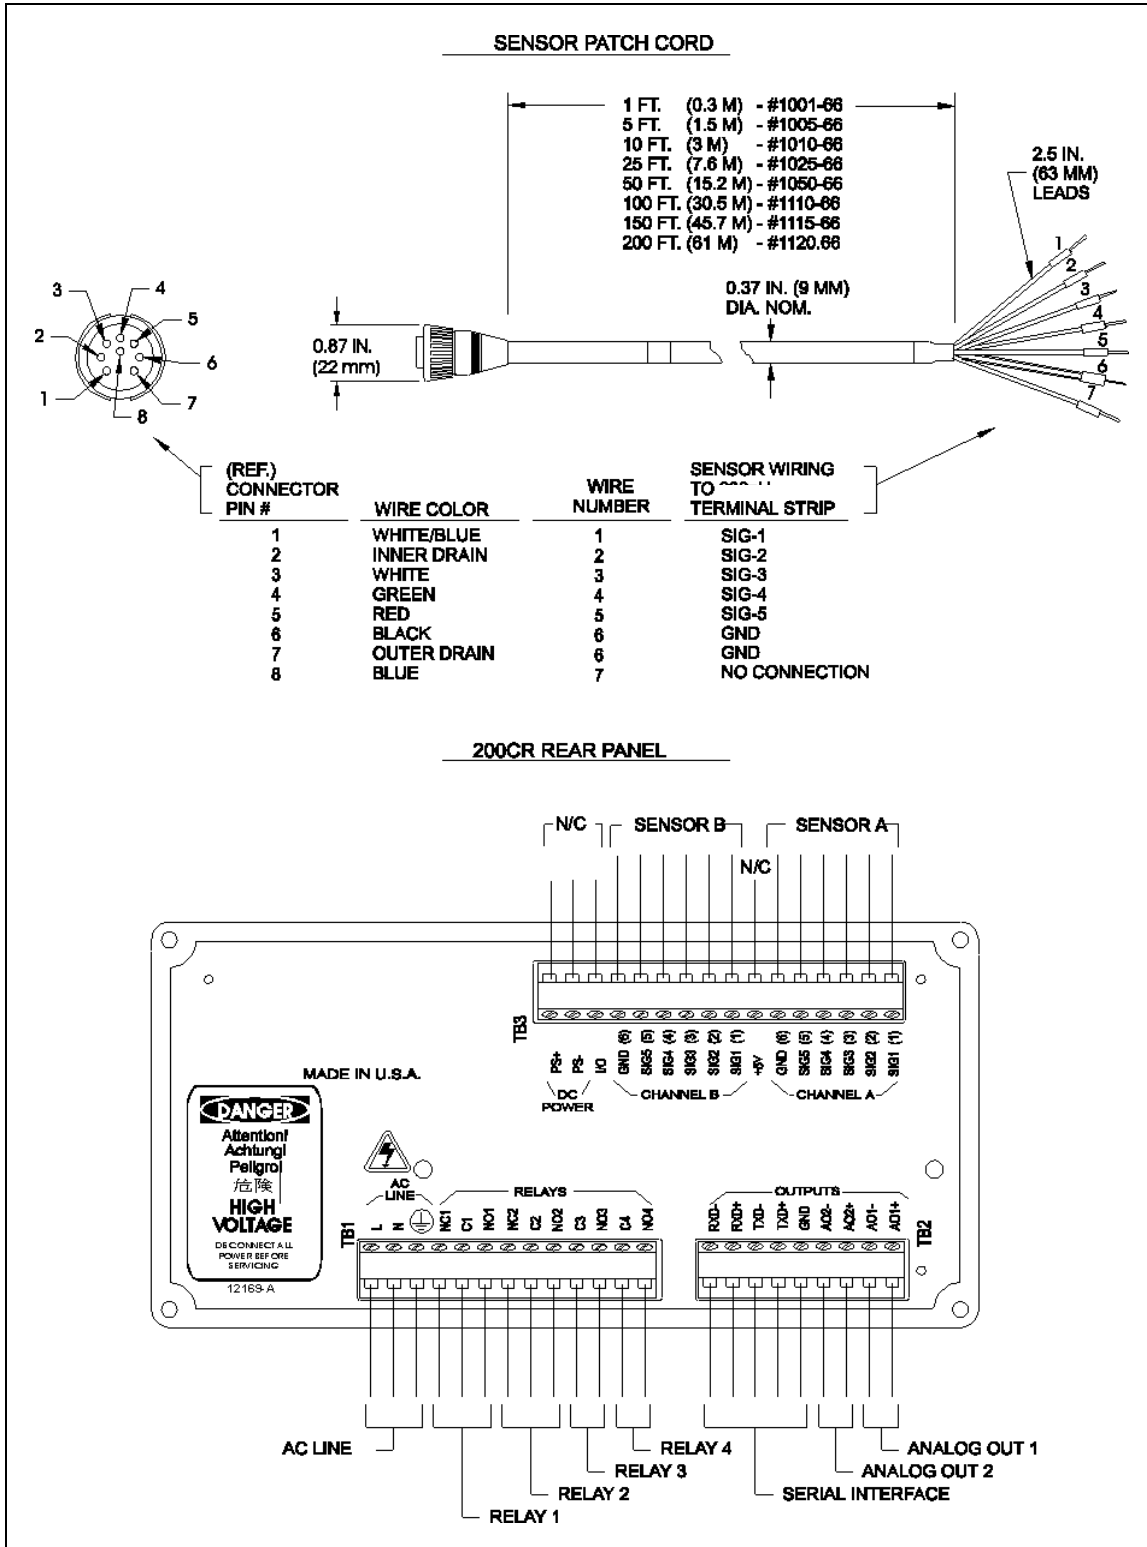

Figure 14.10: 200CR Rear Panel Wiring & Patch Cords – see Chapter 2 for special wiring to measure ultrapure water in plastic pipe.
10. Wire the cable to the 200CR as indicated. See Figure 14.10.